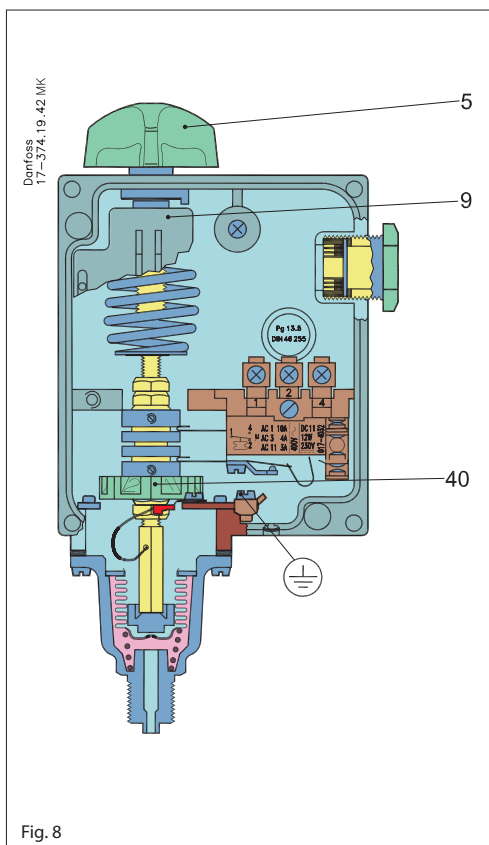
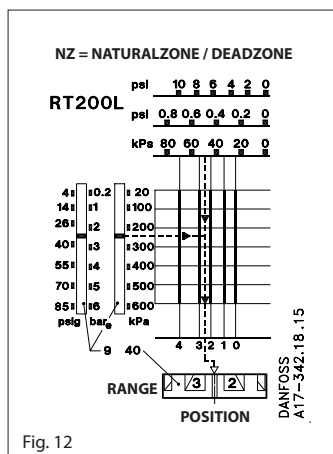
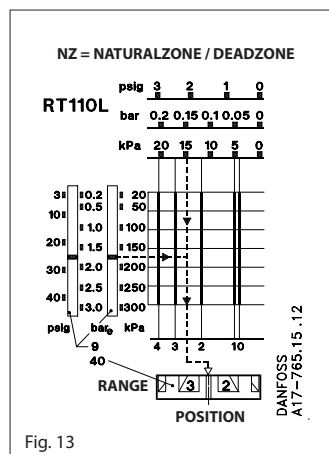

Fig. 8
Fig. 12
Fig. 13
The interval in the controlled variable in which the correcting element does not respond (see fig. 13)
The range is set using the setting knob (5) fig. 8 while reading the range scale (9). The pressure set is the break pressure for contacts 1-4 (see fig. 13).
The required neutral zone can be found in the diagram for the unit concerned. The position at which the neutral zone disc (40) must be set can be read from the lower scale in the diagram. The function can be seen in fig. 13.
The RT 200L must be set using the setting knob (5) fig. 8 page 9 at 3.5 bar (35 m wg) minus the fixed differential of 0.2 bar.
The neutral zone, $35 - 32 = 3$ m wg, corresponding to 0.3 bar, must be set on the neutral zone disc (40) fig. 8 page 9. According to the diagram fig. 12 the disc setting is 1 or just over. A more accurate setting can be obtained by using the test setup shown in fig. 14.